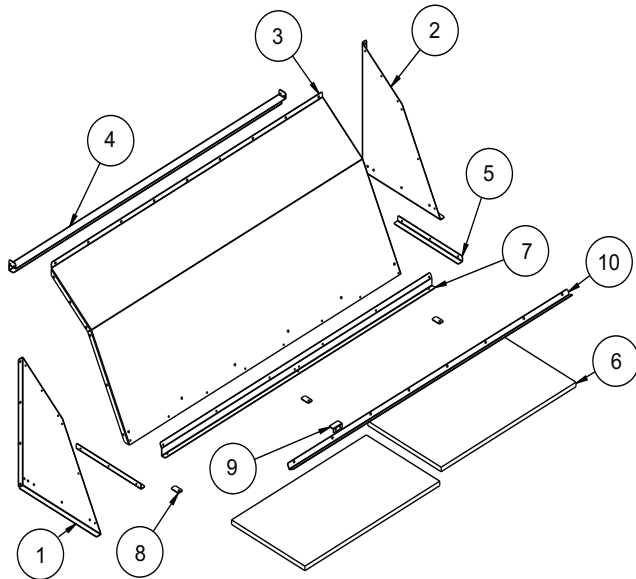

Fig. 26 — Hood Assembly
4. Assemble hoods (see Fig. 26).